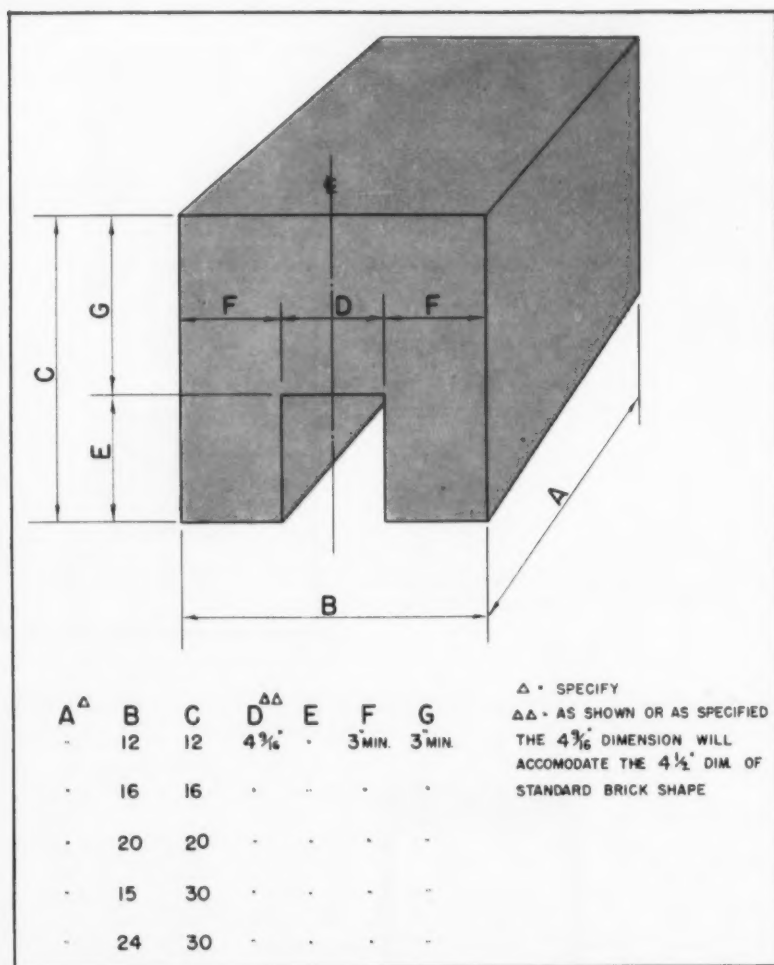

Fig. 7 . . Grooved breast block can use replaceable tap hole inserts.
■ Fig. 7 . . "Floating" block with groove to tap hole; dimensions are oversize, replaceable inserts.
The breast block illustrated in Fig. 7 is grooved. Depending on allowable space, this groove may be oversize to accommodate replaceable tap hole inserts. If a smaller block is used, the groove may have the exact dimensions of tap hole.